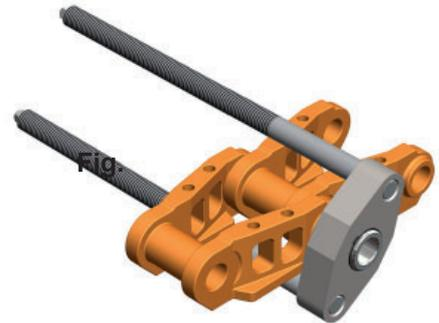
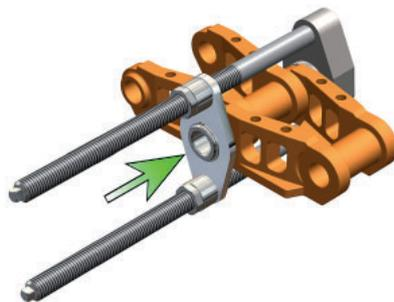

Fig. 8
Fig. 9
3. Place the fixing yoke with the centering sleeve centered over the end bolt of the track chain and tighten the fixing yoke with the nuts, fig. 8. Important! The fixing yoke must be parallel with the counterhold yoke. Check measure according to fig. 9.